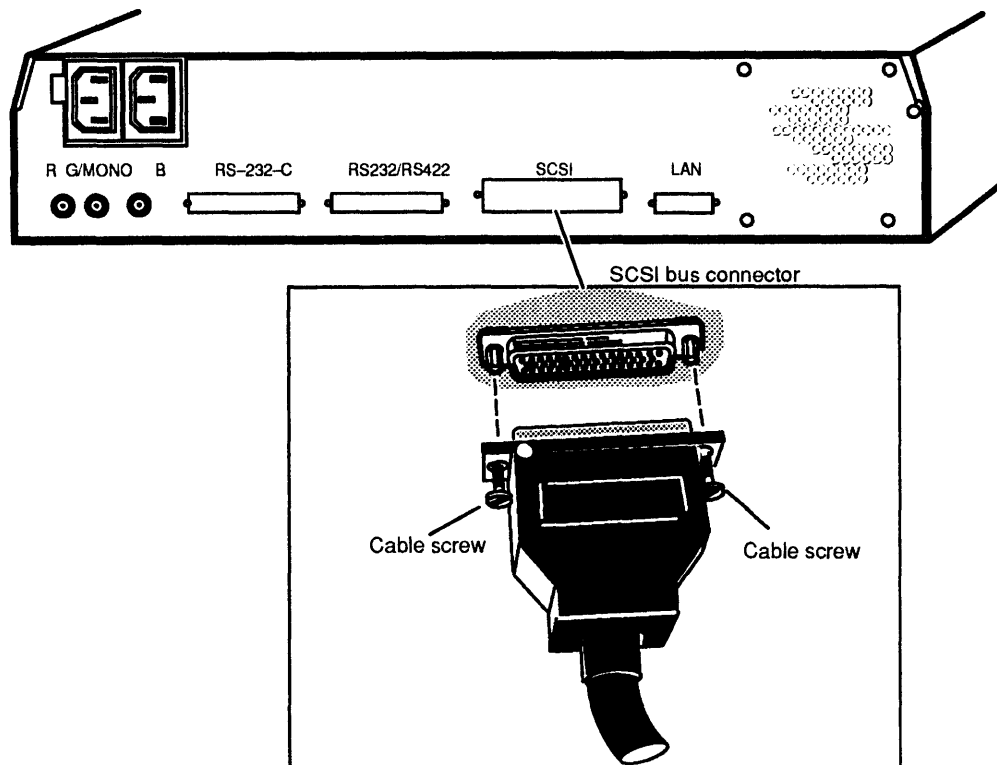

Figure 2-13 Connecting the SCSI Bus Cable to the Connector on the Back of the Computer Unit
1. Plug the male end of the SCSI bus cable into the computer unit SCSI bus connector; Figure 2-13 shows the location and cable end.
2. Attach the cable to the connector by tightening the two screws on the SCSI bus cable (shown in Figure 2-13).